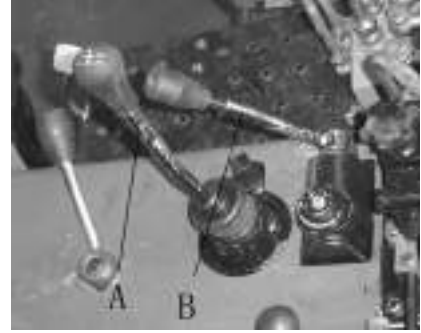

Figure 2-19 Differential Operation (20FT)
- Step on the clutch pedal and operate the auxiliary gear shift lever (B). Push down from the neutral position; low shift, L. If lifting up use the high shift, H.
- Figure 2-19 Shifting the Tractor
- Step on the clutch pedal, push forward on the main shift lever (A) from the neutral position. Shift 1: pull backward. Shift 2: move to the left from neutral and then pull backward. Shift 3: push forward. Shift 4: move to the right from neutral and then push forward. Reverse gear shift (R).